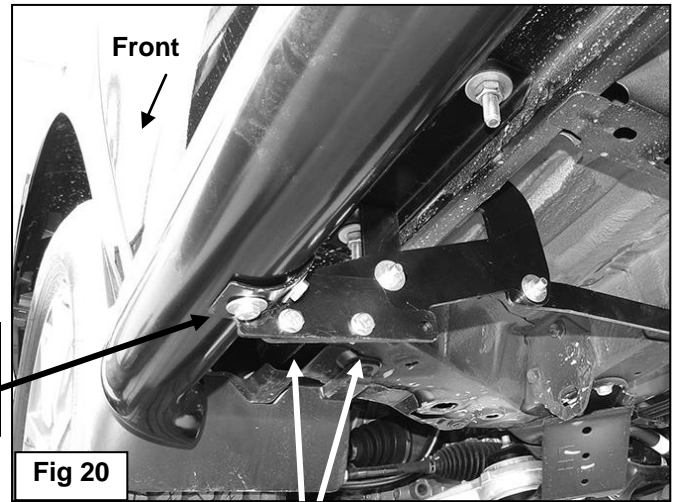

Fig 20
17. Once proper position has been selected, bolt the front Sidebar Bracket, with cradle pointing to rear, to the back of the Mounting Bracket with (2) 8mm x 25mm Hex Bolts, (4) 8mm x 16mm Small Flat Washers and (2) 8mm Nylon Lock Nuts, **(Figure 20)**. Repeat this Step to bolt the rear Sidebar Bracket, with cradle facing forward, to the front facing side of the rear Mounting Plate, **(Figure 21)**.
18. Select the driver/left Sidebar. **NOTE:** Bent end toward front of vehicle. Carefully place the Sidebar in position on top of the Brackets. Line up the threaded holes in the bottom of the Sidebar with the slots in the Brackets. Bolt the Sidebar to the Brackets with (4) 8mm x 25mm Hex Bolts, (4) 8mm Lock Washers and (4) 8mm x 24mm Large Flat Washers, **(Figures 20 & 21)**. Do not tighten hardware at this time.